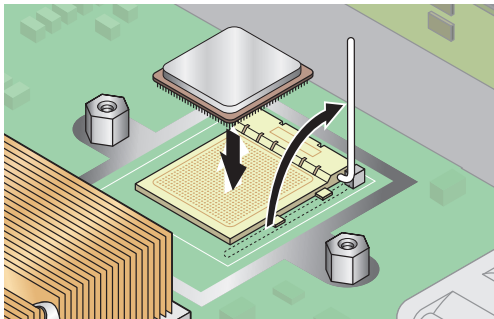

FIGURE 16 Installing a CPU in its Socket
2. Ensure that the socket release lever is in the fully open, perpendicular position (see FIGURE 16).